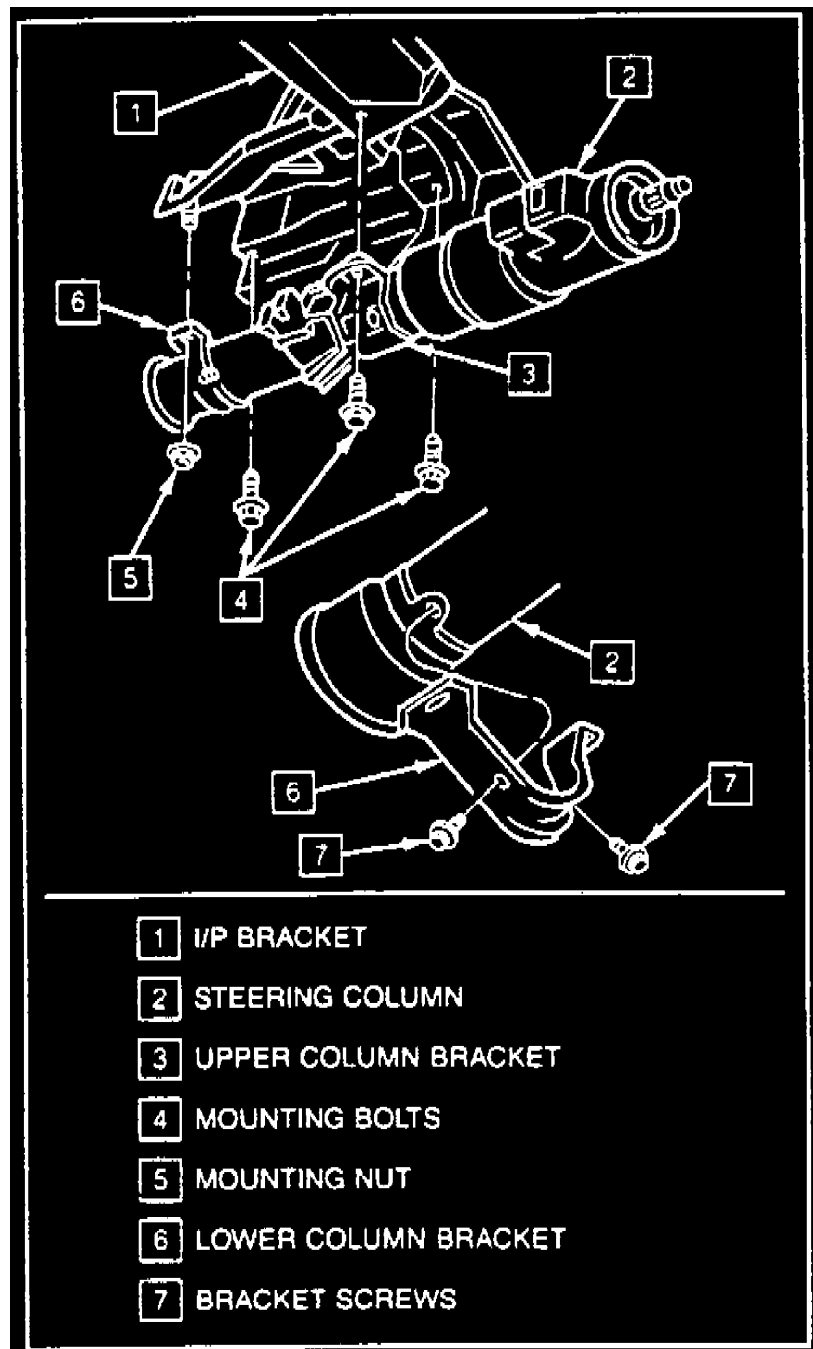

Fig. 14 Steering Column Installation
1. Install column in vehicle and support at upper bracket with two bolts, **Fig. 14**, do not tighten at this time.